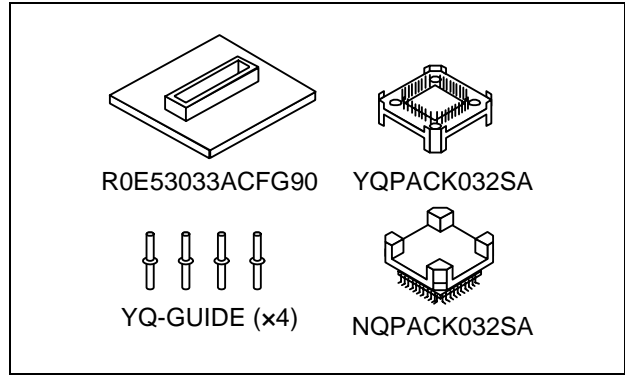

Figure 1 Package components of the R0E53033ACFG90
2. Package Components (See Figure 1)